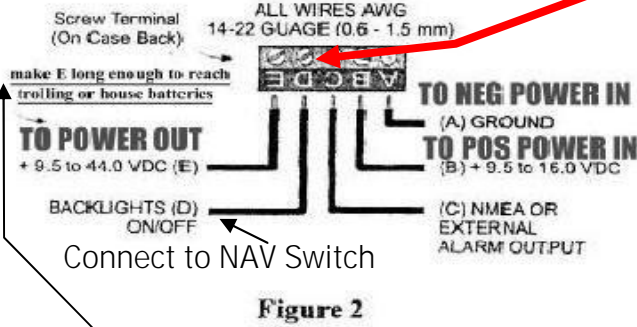
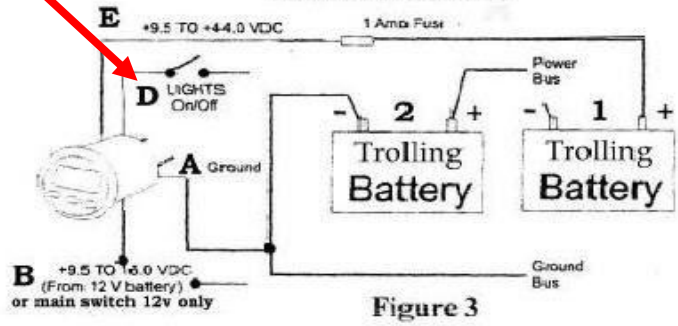

Figure 2
Figure 3
- Bring the wires out the mounting hole and make the connections to the screw terminal on the instrument case back as shown in Figure 2 and Figure 3.
- Carefully check all your wiring against those shown in Figures 2 and 3. If everything is wired correctly you can mount the VF25 in the instrument hole. Be sure the bulkhead gasket is in place and use only finger tension to tighten the bracket hold-down nuts. Do not overtighten the bracket or you may damage the case - do not use tools to tighten the nuts.